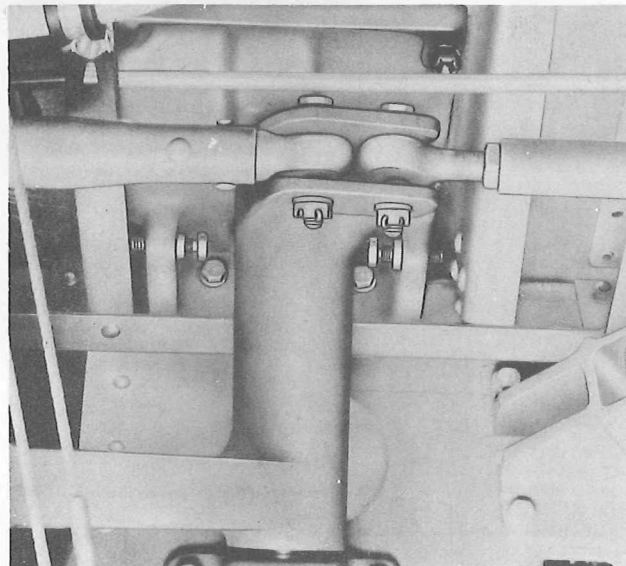

Figure 2-60. Cyclic Control Stick Fore-and-Aft Stops
p. Back off the cyclic control stick fore-and-aft stops (figure 2-60) in the clutch compartment. With the collective pitch control still locked in the low pitch position, move the cyclic control stick to extreme forward position until the fore-and-aft control power piston in the auxiliary servo unit bottoms. Check with a bevel protractor for a forward cyclic control stick reading of  $-5$  degrees  $\pm\frac{1}{2}$  degree at the main rotor blade attachment lugs with the blade pitch control rod assembly directly over the fore-and-aft main rotor servo unit. Adjust the forward control stop in the clutch compartment to a 0.010 inch clearance. Lockwire the stop. Move the cyclic control stick to the extreme aft position until the power piston in the fore-and-aft control auxiliary servo unit bottoms. Check with a protractor for an aft cyclic control stick reading of  $+19$  degrees  $\pm\frac{1}{2}$  degree at the main rotor blade attachment lug with the blade control rod assembly directly over the fore-and-aft main rotor servo unit. Adjust the aft control stop in the clutch compartment to a 0.010 inch clearance. Lockwire the stop.